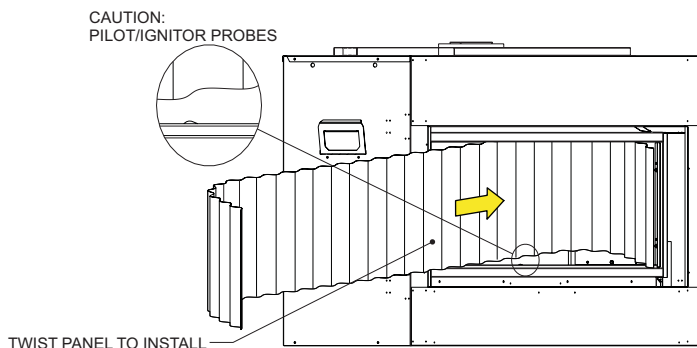

Figure 4
9. To install the liner panel, it works best if the right side is placed into the firebox first. **See Figure 4.** When installing the liner, some gentle twisting of the liner will be required. The liner will need to be pushed back into the corners of the firebox just enough to engage the right front edge of the liner into the right side retainer bracket. **See Figure 4.**